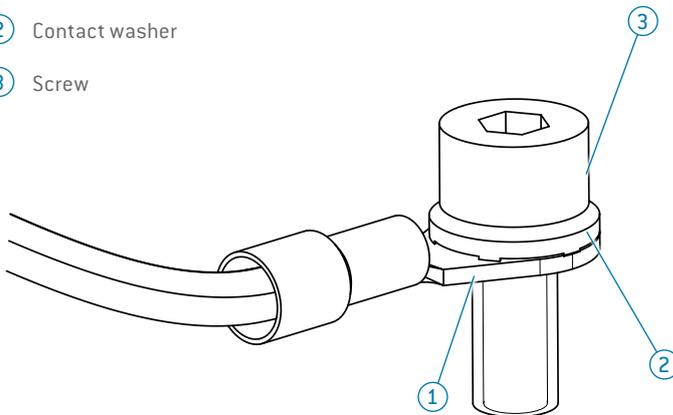
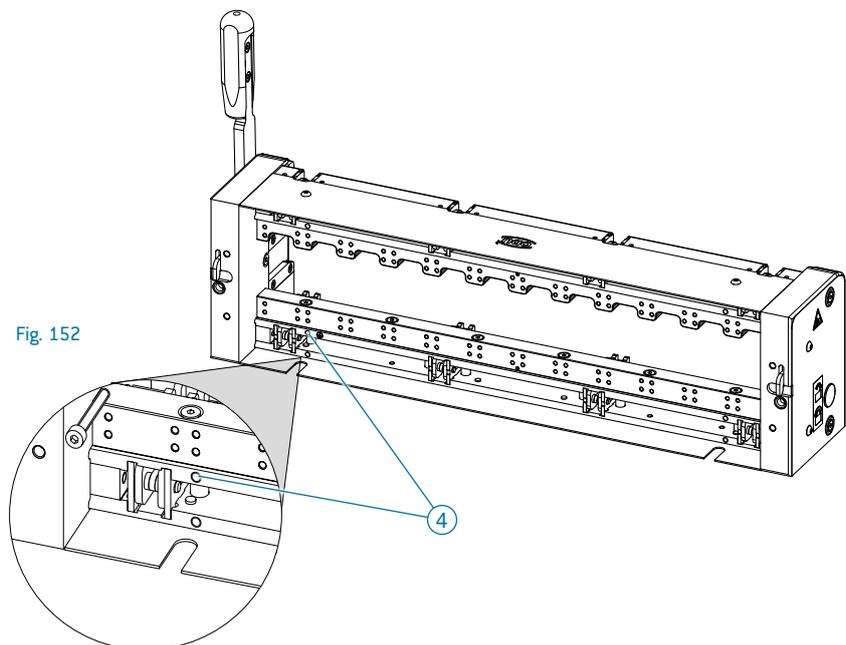

Fig. 145
Fig. 152
The protective-conductor terminal must be structured as described in Section 7.6, Fig. 145 and 146.
- If the receiver ① is operated without additional screw-on parts ②, the protective-conductor terminal should be attached at the position marked ④ in Fig. 152; see Table Section 6.17 for the prescribed torque. The protective-conductor terminal must be structured as described in Section 7.6, Fig. 145 and 146.
- If the receiver ① is operated with additional screw-on parts (e.g., fixed mounting frame ② or slide mount Section 7.6.3), the protective connection should be attached at the positions ④ marked there. The protective connection is then realized via the mounting points shown ③; comply with the torque specifications in Table Section 6.17 in this case too.
- On the 12-Flex FOUR A Receiver slide mount without platform flange ①, the protective connection is realized via the protective-conductor terminal ②.
- An M6 thread is provided for the terminal. The protective-conductor terminal must be structured as described in Section 7.6, Fig. 145 and 146.
- On the 12-Flex TWO M Receiver slide mount with platform flange ①, the protective connection is realized via the protective-conductor terminal ②.
- An M6 thread is provided for the terminal. The protective-conductor terminal must be structured as described in Section 7.6, Fig. 145 and 156.
- On the 12-Flex TWO M Receiver slide mount without platform flange ①, the protective connection is realized via the protective-conductor terminal ②.